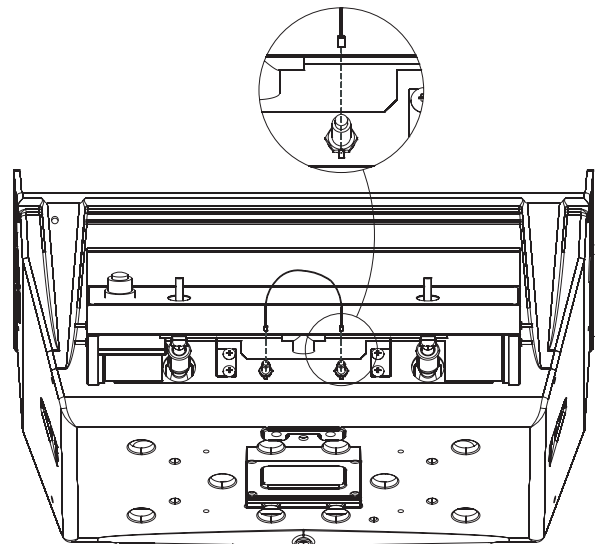

Figure 8
7. Attach ignitor ground wire ends onto ground lugs. See Figure 8.